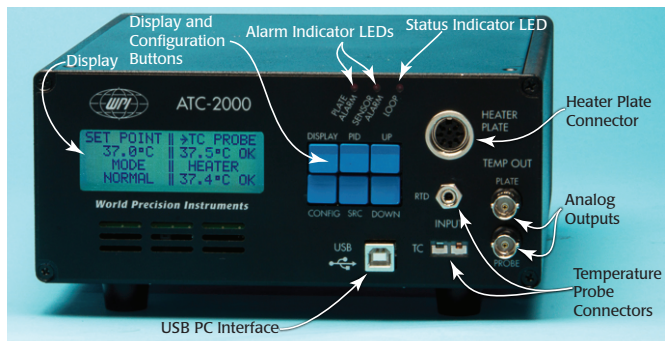

Fig. 5—Front panel of the ATC2000
**Display**—The main display shows the set point temperature, mode of operation, the temperature reading for the controlled probe (the thermocouple in Fig. 5) and the temperature of the heated plate. Press the **Display** button again to view the temperature of the other temperature probe. In the example above, the RTD probe value will display. If a probe is not connected, the display says, "ERROR." The arrow next to the TC Probe indicates that the TC Probe is the controlled temperature.